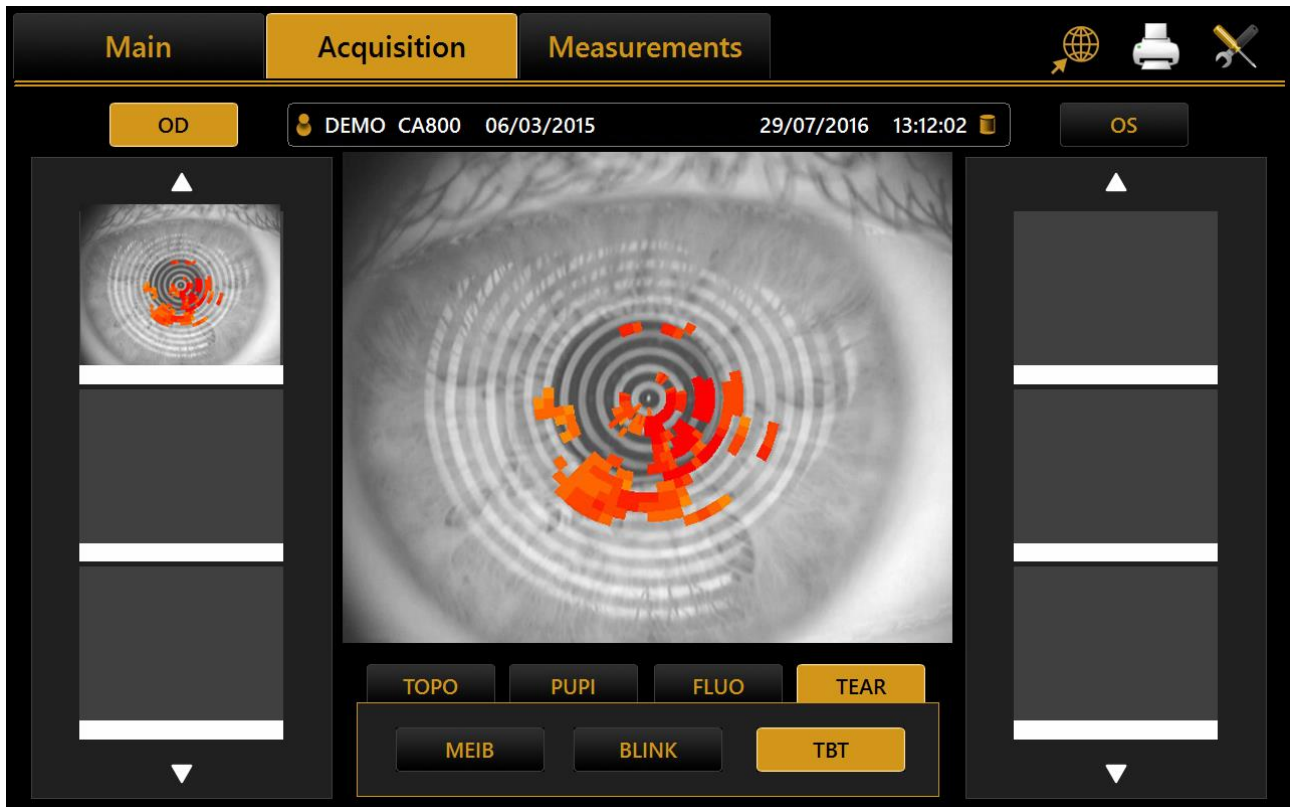

Fig. 42
9. The summary map (time-wise coloring) of the broken sector is overlaid for 2 seconds to the live image (Fig. 42)